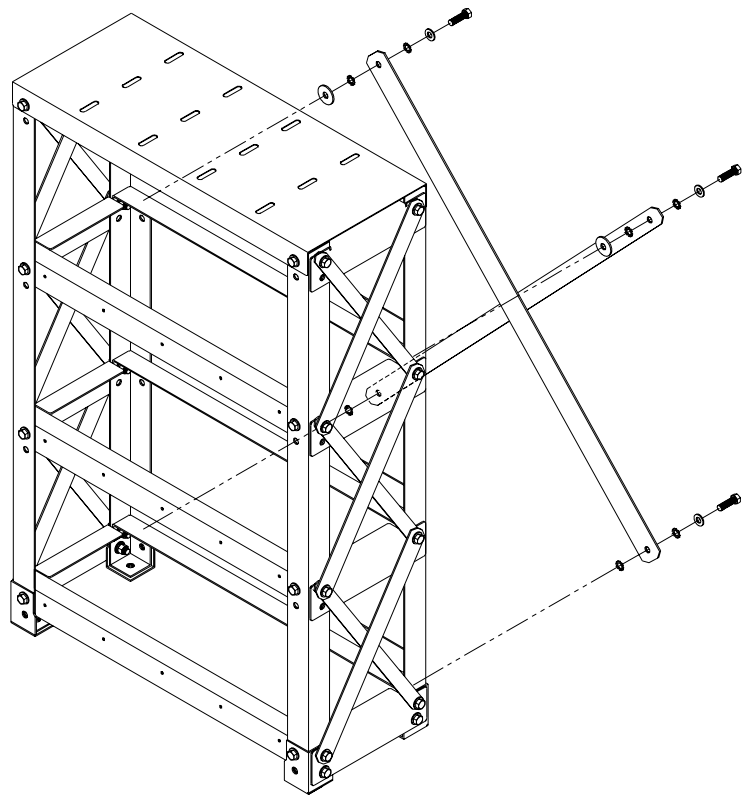

Figure 8.4d
- Install rear cross braces and shims per Figures 8.4d & e.